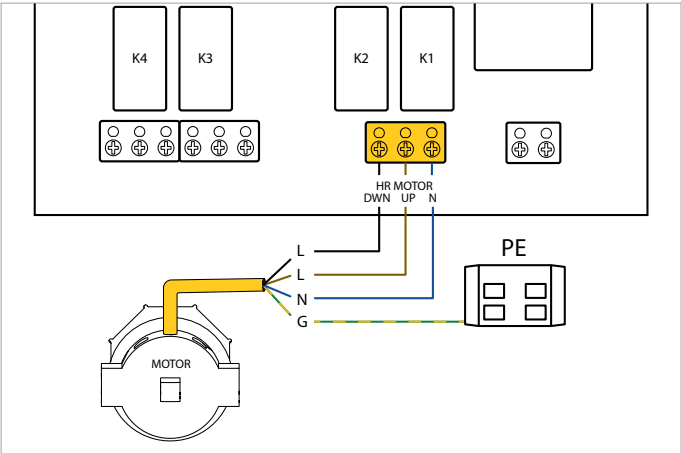

Fig. 6.4 Wire the motor to the PCB
- Connect the electrical wires from the motor to the remote control PCB according to figure 6.4.